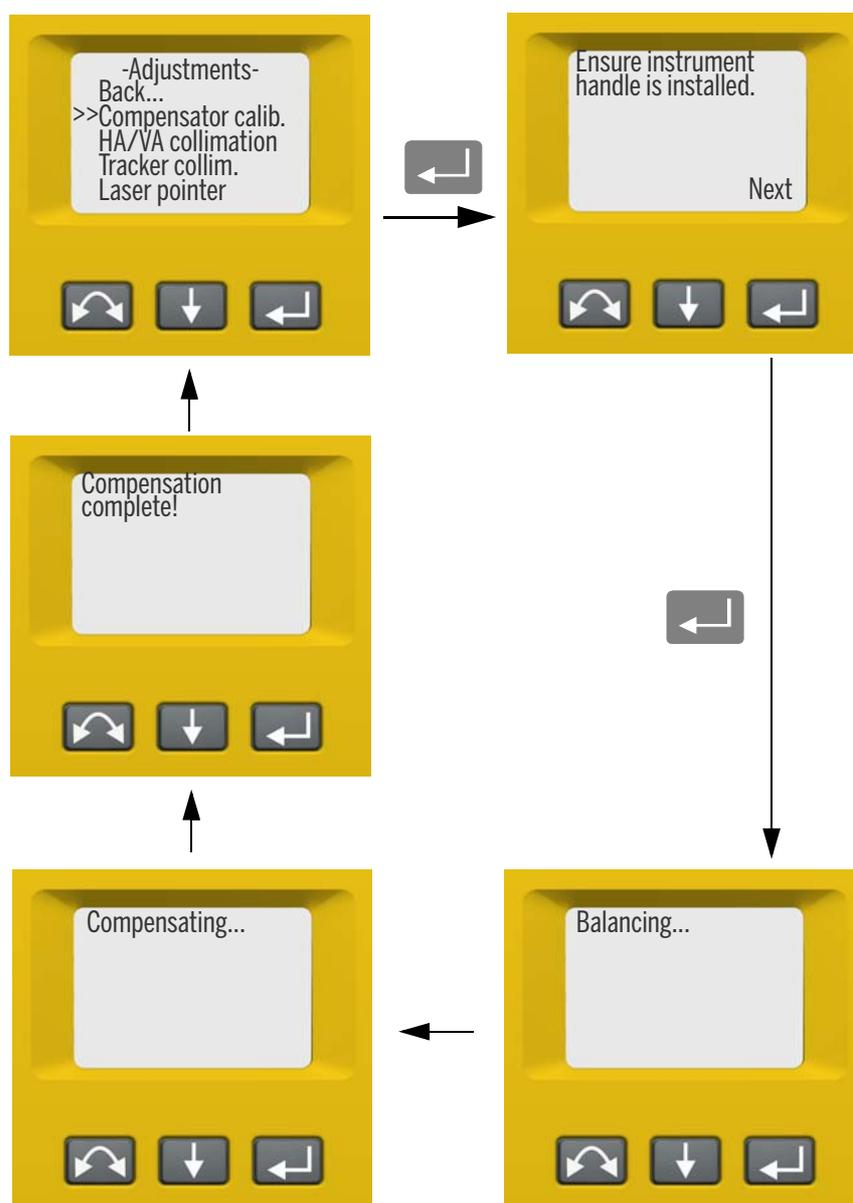

Figure 3.12 Compensator calibration routine
3. Follow the instructions in the display. Figure 3.12.